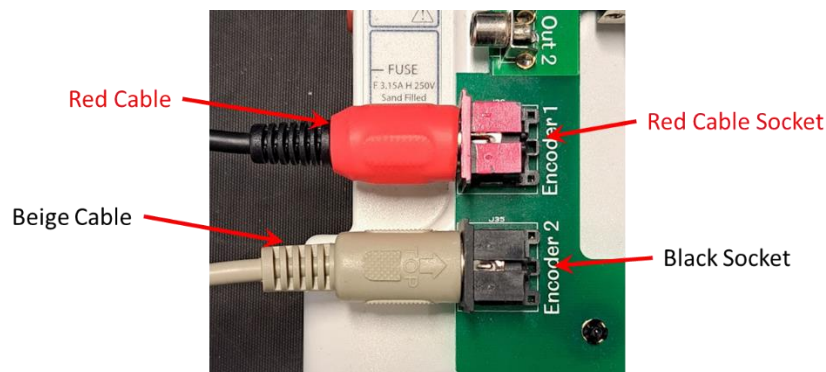
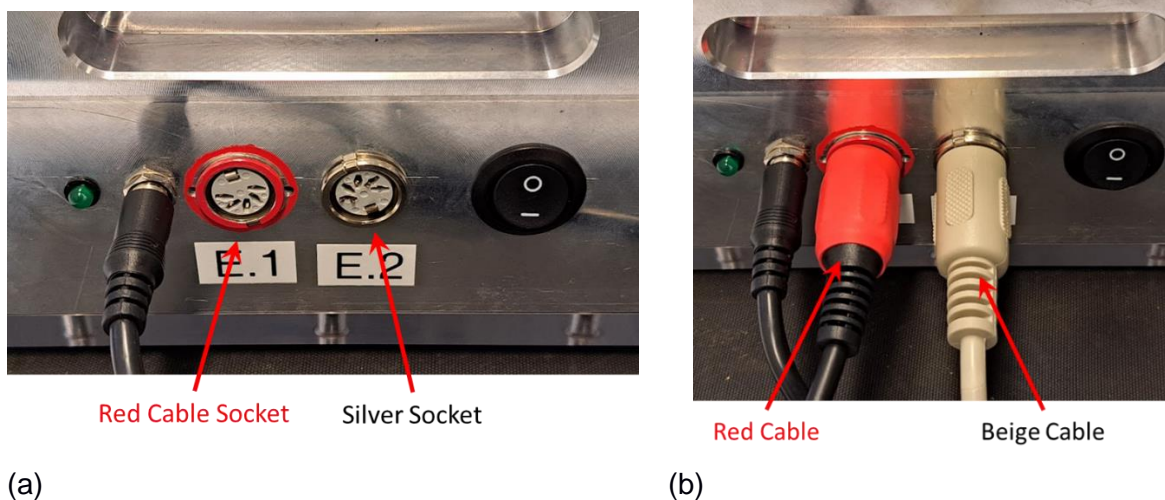

Figure 10. Connections into the Control Equipment Interface Board
Figure 11. Connections into the Mass Spring Damper Unit
1. **Beige 5-pin DIN Cable**, shown in Figure 9a: Connect one end of this cable to the **Encoder 2** channel on the Control Equipment Interface Board, shown in Figure 10,, and the other end into the silver DIN socket, Marked **E2** on the end of the Mass Spring Damper unit, shown in Figure 11.
2. **Red 5-pin DIN Cable**, shown in Figure 9b: Connect one end of this cable to the **Encoder 1** channel on the Control Equipment Interface Board, shown in Figure 10, and the other end into the Red DIN socket, Marked **E1** on the end of the Mass Spring Damper unit, shown in Figure 11.